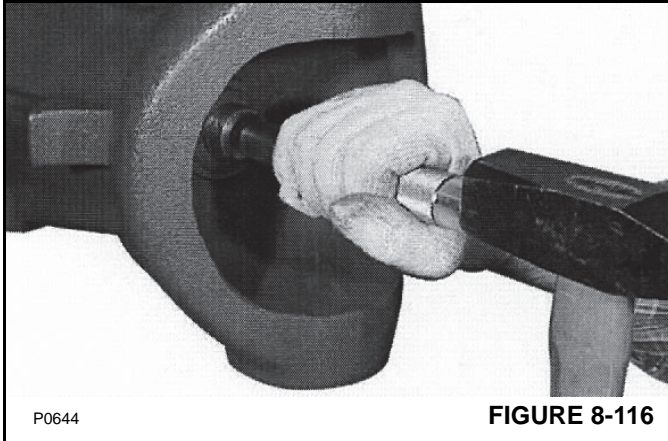

FIGURE 8-116
2. Install the bushing in the axle beam housing with SPECIAL TOOL P/N 1901777 and a hammer (Figure 8-116).